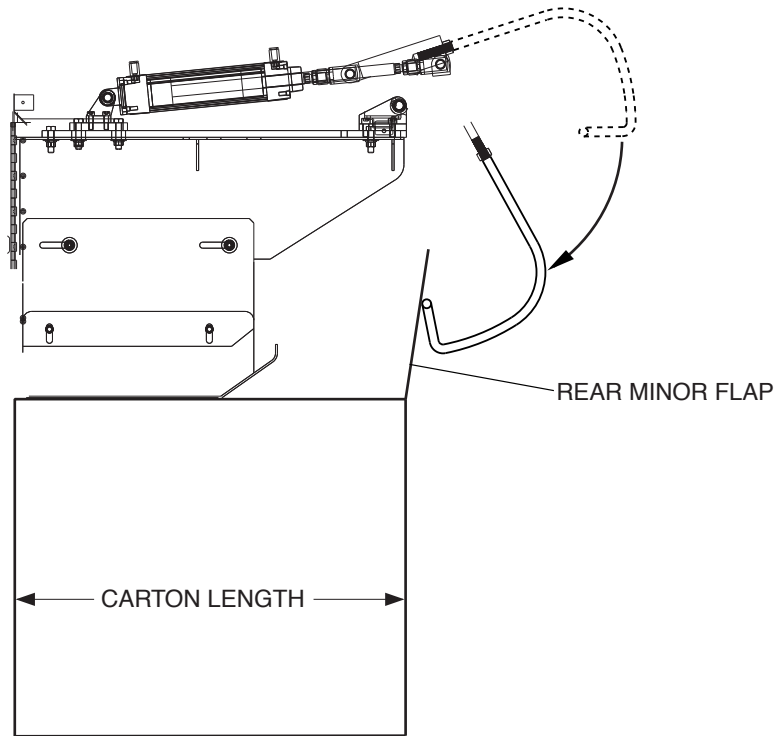

Figure 15
4.6 Kicker Adjustment (Figures 15 & 16)